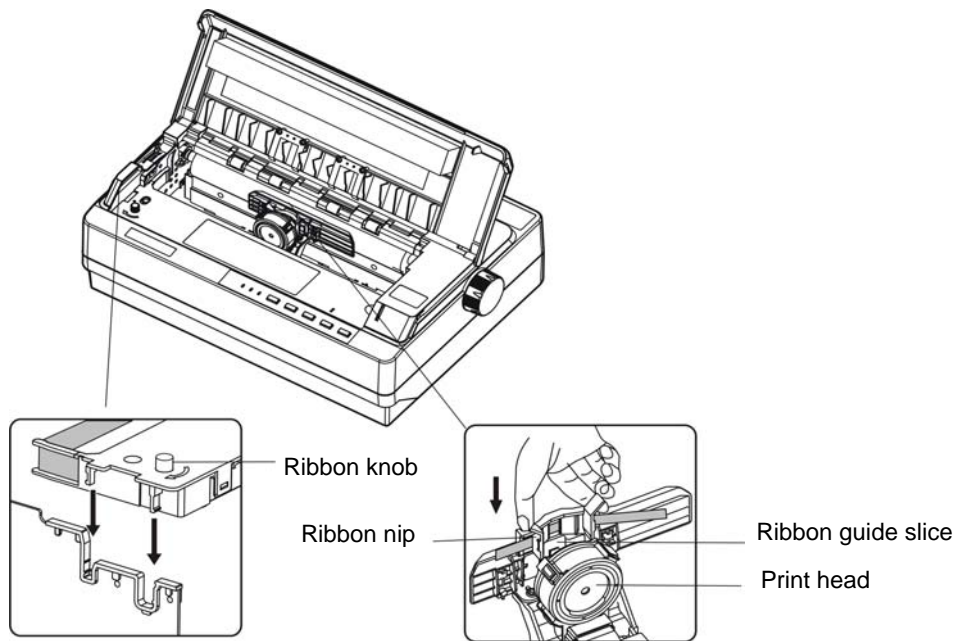

Figure 1-6 Install ribbon cartridge
- Hold both sides of the ribbon down firmly to fit the plastic hooks into the printer slots. Then put the ribbon nip between print head and ribbon guide slice, press it down until it click into place. (shown as figure 1-6)